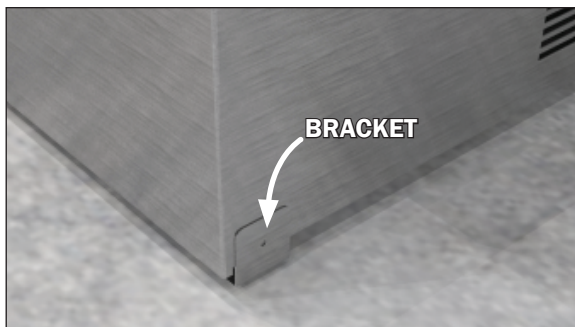

Fig. 3 Seismic anchoring locations (bullet legs)
8. (CASTERS/BULLET LEGS) If necessary, attach two brackets at two separate corners of the case (Fig. 3) and fasten to the floor with concrete anchors. **Note: The brackets do not need to be affixed in the exact locations specified here. However, be sure that the anchors are close to the corners and that at least two brackets are used, one at each corner.**